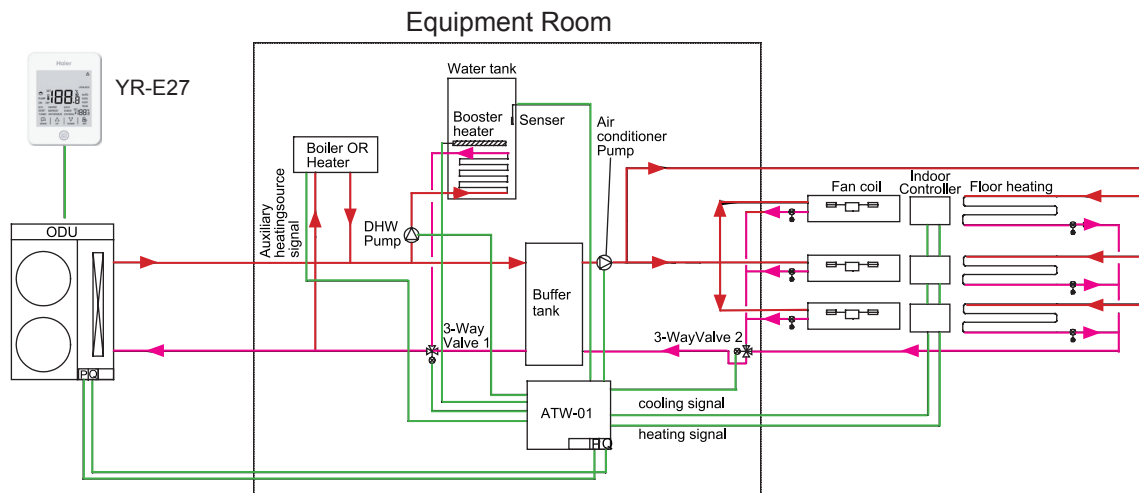

Fig.1 DHW (domestic hot water) controlled by YR-E27
- YR-E27 together with DHW temperature sensor (Connected at CN31) which will be inserted into DHW tank while Outdoor PCB BM1-1 will be set to OFF (Fig.1);